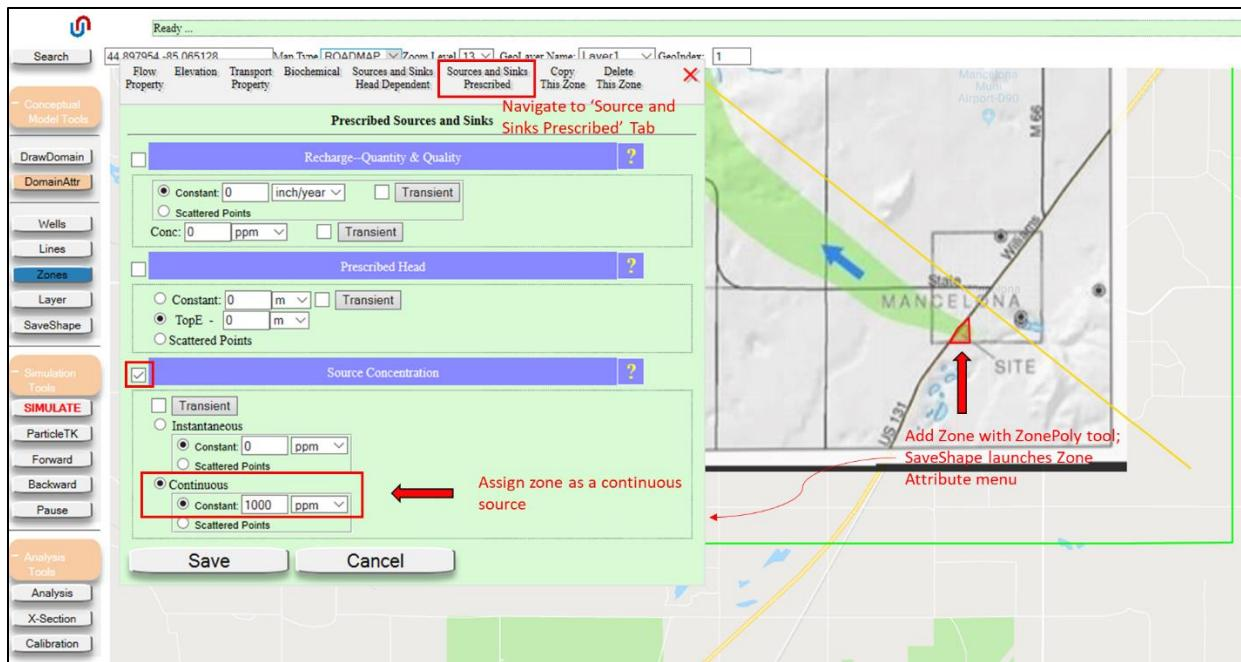

Figure 15. Adding a source of contamination at the spill site using the 'ZonePoly' tool and the Source and Sinks Prescribed tab of the Zone Attributes menu.
- Zoom into the site (see Figure 15), then use the ‘ZonePoly’ tool to draw a zone at the site. (‘Conceptual Model Tools’ > ‘Zones’ > ‘ZonePoly’)